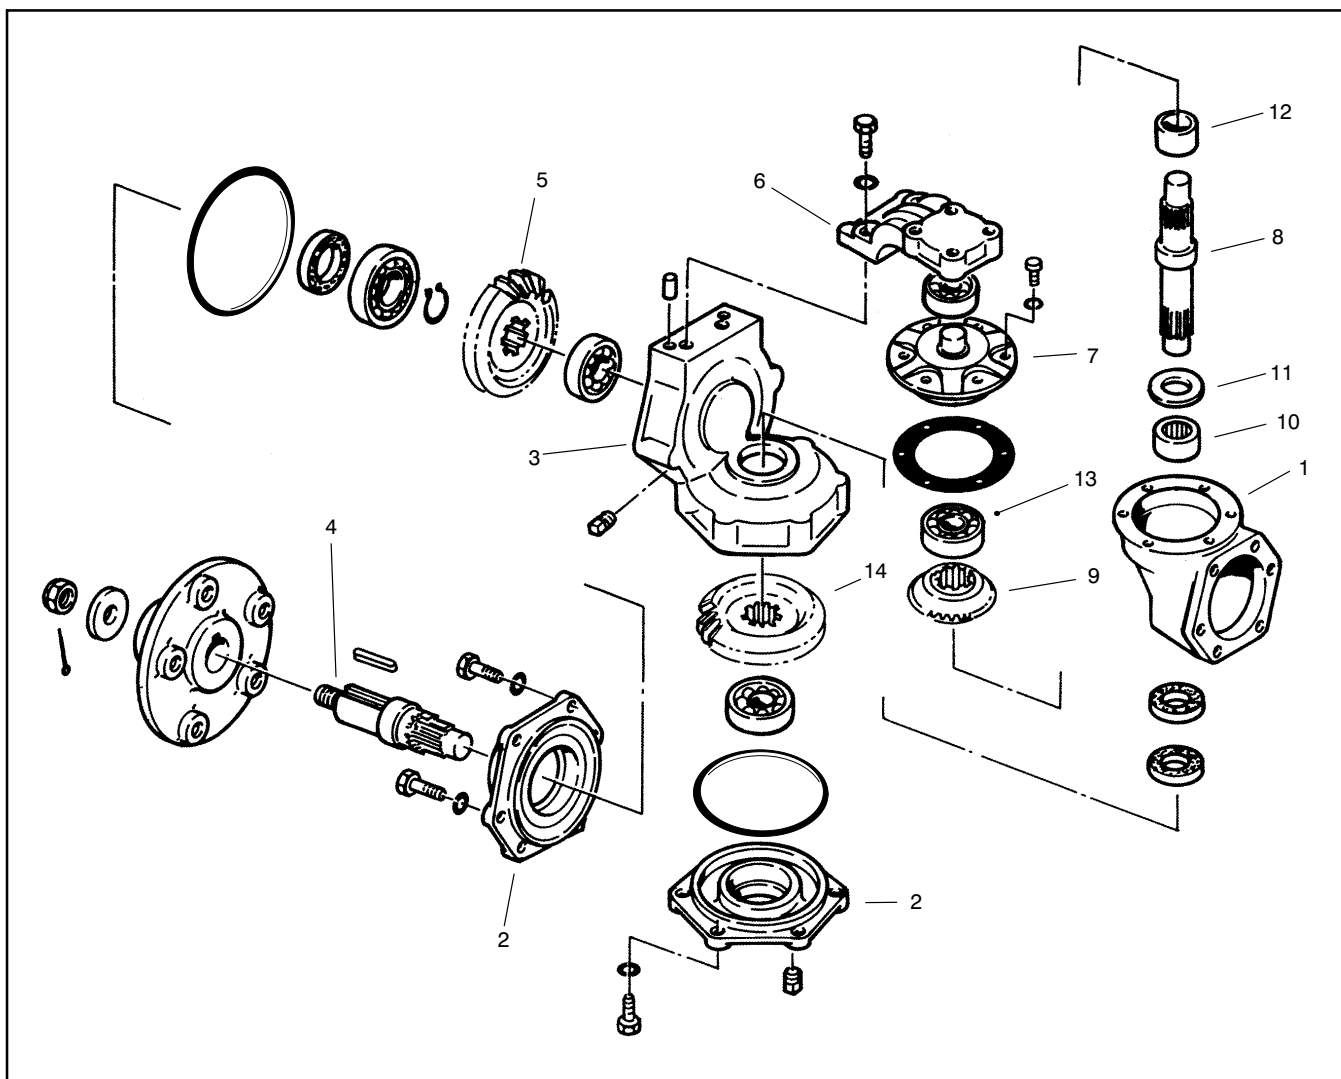

Figure 12
7. Remove knuckle cover bolts. Separate knuckle covers from knuckle housing. Remove outer bevel gear (Fig. 12).
6. Install knuckle pin, needle bearing, washer, spacer, and inner bevel gear in gearbox housing (Fig. 12). Install bearing and bearing retainer to gearbox housing and tighten bolts evenly to 6 to 8 ft-lbs (8 to 11 Nm).
7. Align gearbox housing, knuckle housing, and knuckle arm. Install knuckle arm bolts (Fig. 12).
8. Install outer bevel gear and knuckle cover to knuckle housing (Fig. 12). Use medium strength Loctite thread locker and evenly tighten the cover bolts to 12 to 20 ft-lbs (16 to 27 Nm).
9. Assemble outer axle shaft and bevel gear to knuckle cover (Fig. 12). Use medium strength Loctite thread locker and evenly tighten the cover bolts to 12 to 20 ft-lbs (16 to 27 Nm).